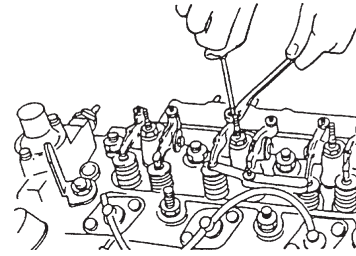

Figure 7: Valve Adjustment
5. To adjust, insert a thickness gauge in between the rocker arm and valve bridge and record the valve clearance. Then loosen the lock nut and adjusting screw of the rocker arm. Be careful that excessive tension is not applied to the valve bridge by fixing it with a wrench so that the bridge does not rotate and a valve will not lean. (Figures 7 and 8). Clearance on intake and exhaust valves should be 0.006 - .01 in. (0.15 - 0.25 mm).